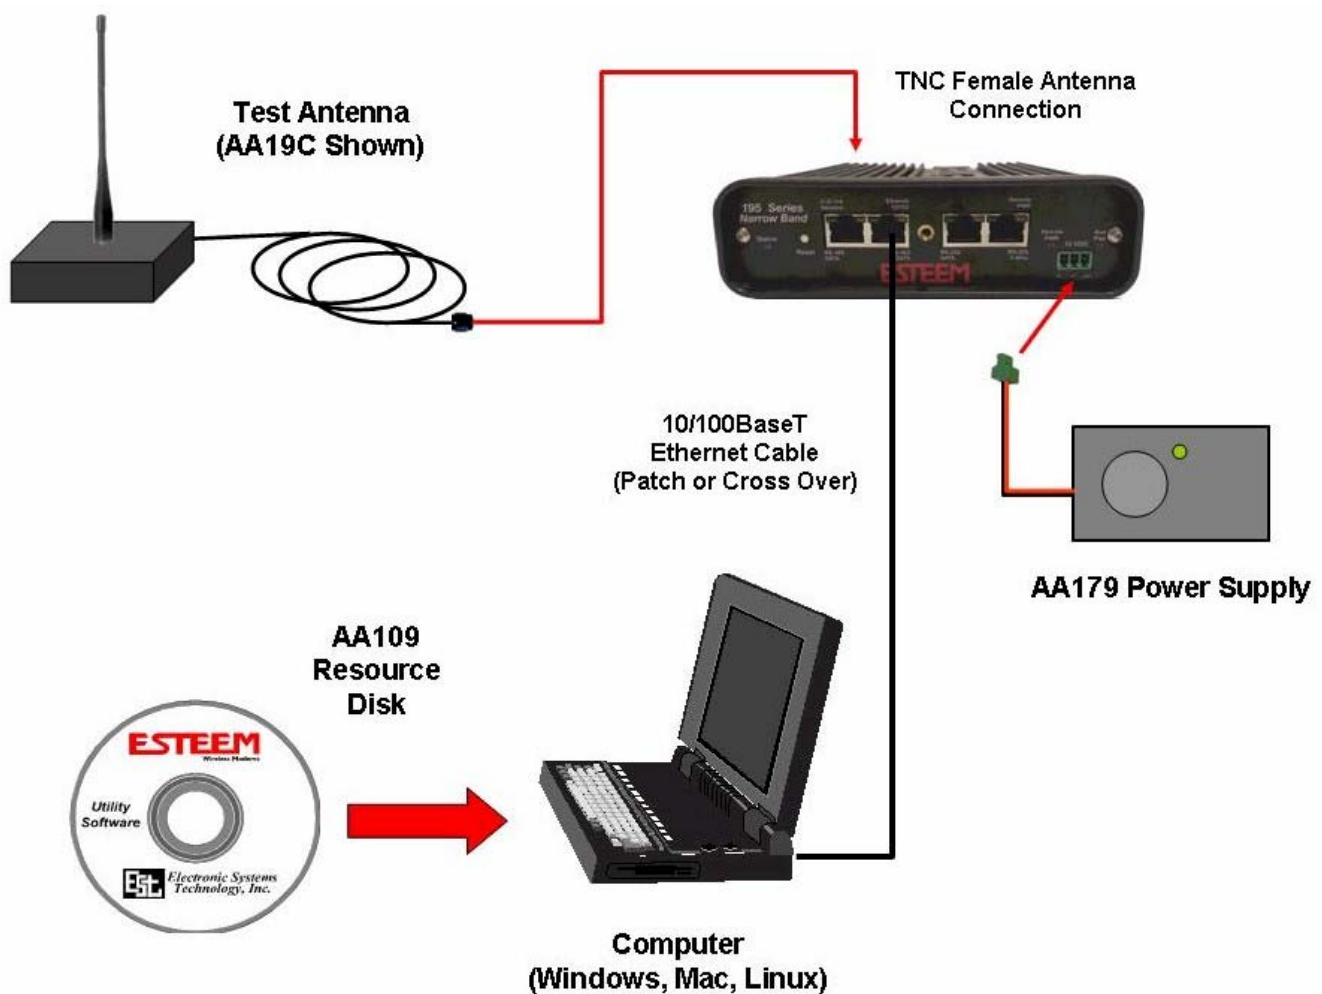

Figure 1 – Basic Configuration Diagram
1. Connect the antenna cable to the TNC connection on the ESTeem Model 195M/H/C (Figure 1).